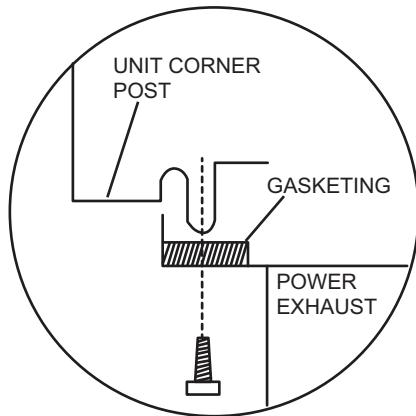

Fig. 11 – Gasketing Location Detail (Standard Filter Panel Only)
3. For units with a standard filter panel (i.e., no hinged door): Install the gasketing (provided) on the back of power exhaust side mating flanges. (See Fig. 11.)